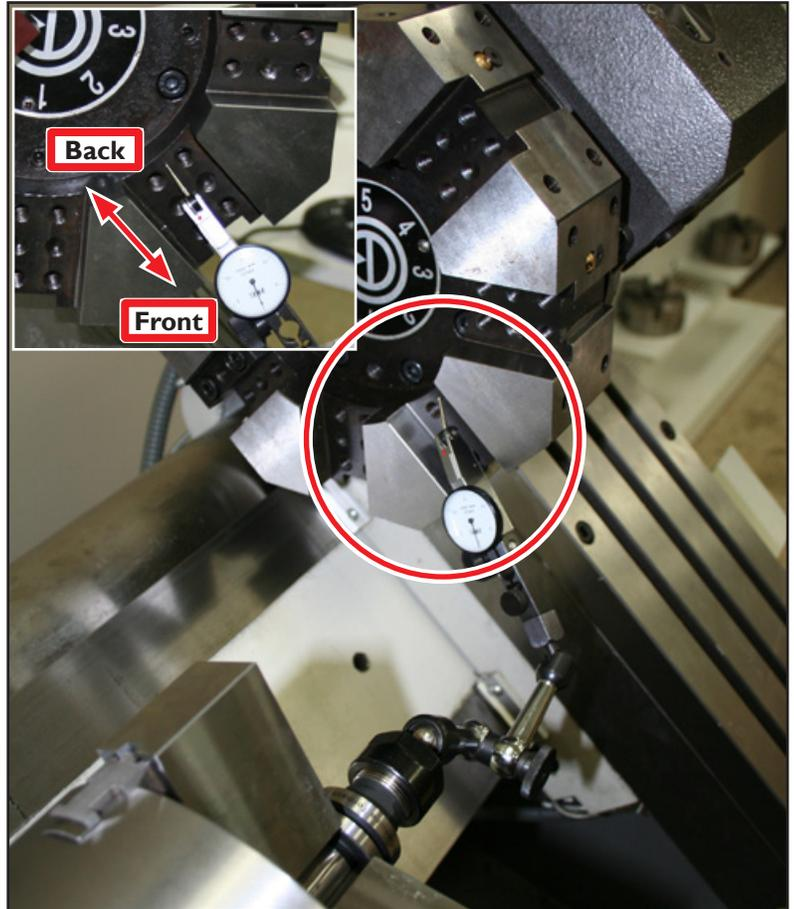

Figure 28
12. To ensure the tool pocket is parallel to the spindle, run the dial indicator back to front in the tool pocket (see **Figure 28**). If, for example, the dial indicator reads $-.001$ ", slightly loosen all six Socket Head Cap Screws.